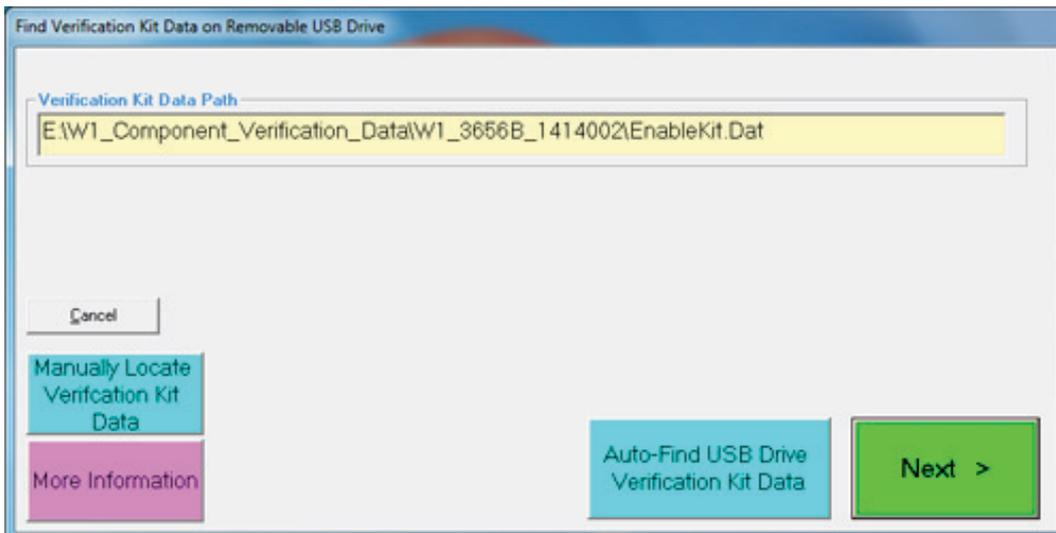

Figure 5-28. USB Drive Locator Dialog
- When the Auto Find Verification Kit Data dialog box first appears in Figure 5-28, the Verification Kit Data Path text field is blank. Click the Auto-Locate USB Drive Verification Kit Data on PC button. The application automatically locates the verification kit data on the USB drive and displays the path in the Verification Kit Data Path text field.